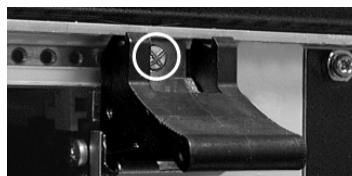

Figure 2-8: Ejector Handle Detail - Screw Location
8. Use a Phillips head or flat blade screwdriver (as appropriate) to tighten the screws of the ejector handles (see Figure 2-8: Ejector Handle Detail - Screw Location) to provide an additional measure of mechanical security.